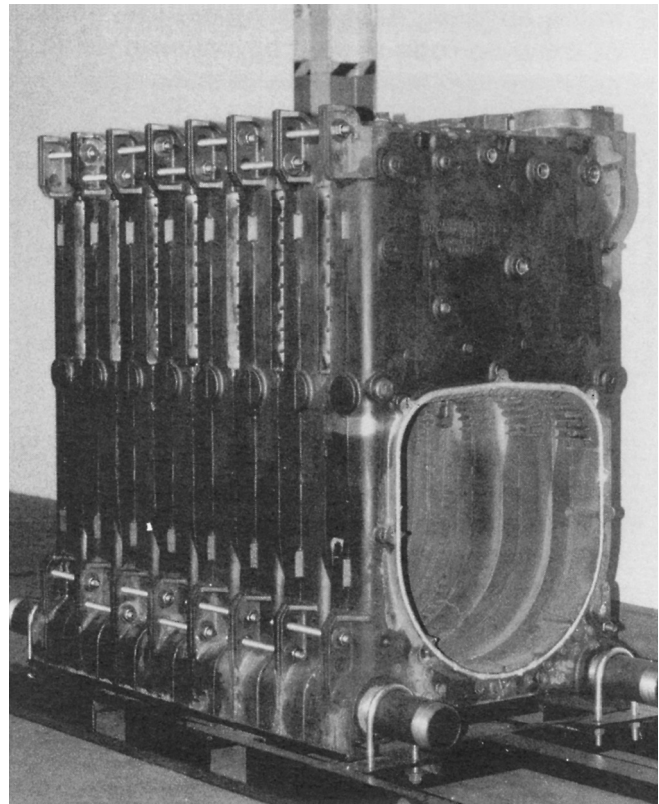

Figure 10: Boiler Section Assembly
- n. CONTINUE ASSEMBLING SECTIONS IN THEIR RESPECTIVE ORDER alternating draw-up rods from the upper to lower set of holes in draw-up lugs (see Figure 10). Be certain that all sections are drawn up iron-to-iron at all three (3) nipple ports.